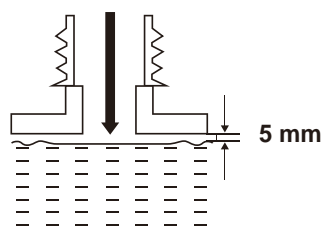

Fig. 9
- Add correct fuel into the tank. Leave a minimum 5 mm of space between the top of the fuel and the inside edge of the tank to allow for expansion (Fig. 9).